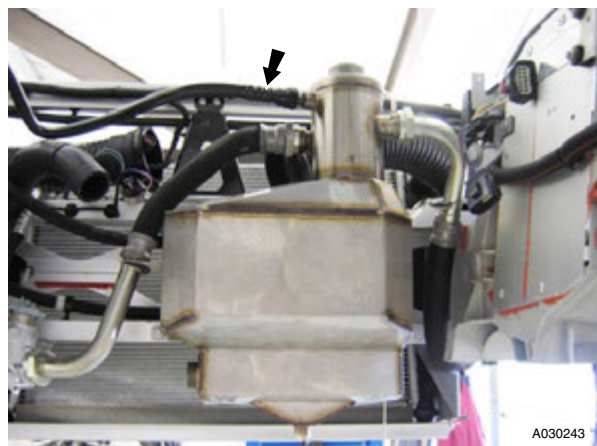

Figure 1
5. Remove breather pipe from oil tank (quick fit) (refer to Figure 1).